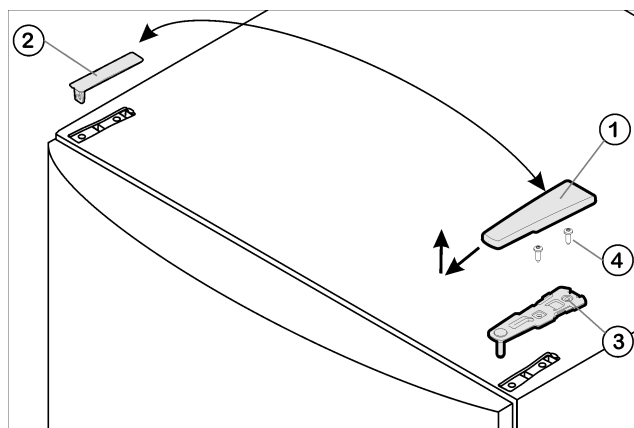

Fig. 4
- Pull the cover Fig. 4 (1) forward and up.
- Lift the cover Fig. 4 (2) off.
- Unscrew the upper bearing bracket Fig. 4 (3) (2 Torx® 25 screws) Fig. 4 (4) and pull it upward to remove.
- ▶ Insert the upper bearing bracket *Fig. 4 (3)* on the new hinge side into the door.
- ▶ Tighten the upper bearing bracket **(to 4 Nm)** (2 x Torx® 25 screws) *Fig. 4 (4)*. Make preliminary holes (optional) or use a cordless screwdriver.
- ▶ From the outside, position cover *Fig. 4 (1)* and cover *Fig. 4 (2)* on the opposite side and snap into place.